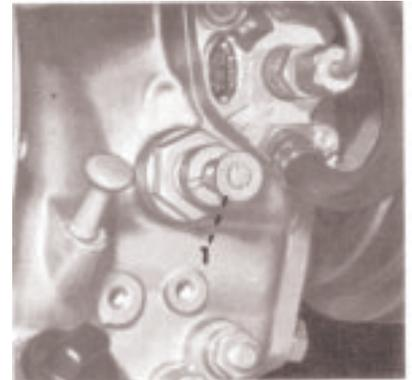

Fig 9
- Tirer le bouton de surcharge (1 Fig. 9 )